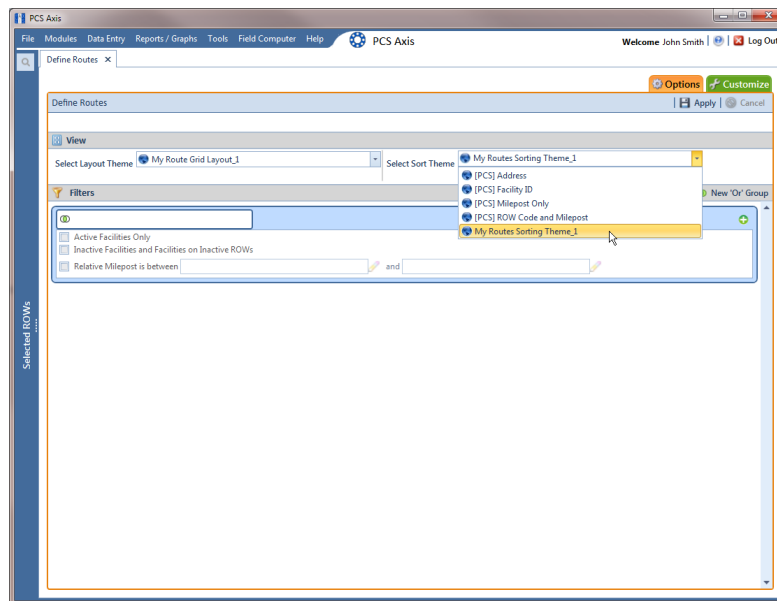

Figure 8-61. Options
- 9 Verify the name of the new sort theme displays in the field *Select Sort Theme*. If not, click the down arrow in **Select Sort Theme** and select the new theme in the selection list (Figure 8-61, page 435).
- a Click the **Options** tab  to open the options page (Figure 8-61).
- a** Click the **Options** tab  to open the options page (Figure 8-61, page 435).